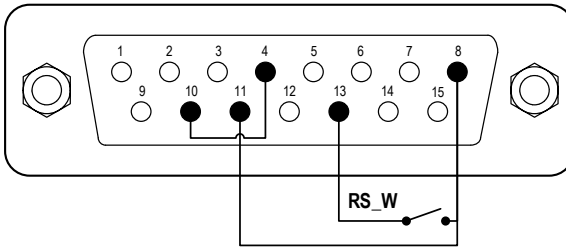
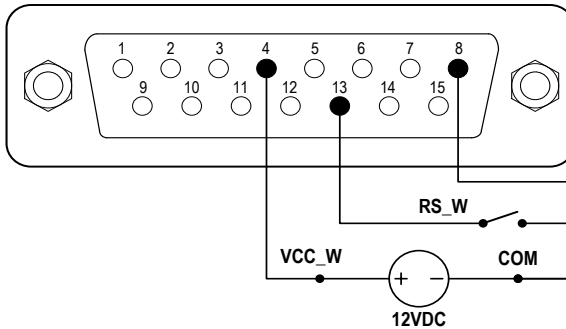

Figure 46. Control Start/Stop with Internal 12V Power Source
Figure 47. Control Start/Stop with External 12V Power Source
- 1) Power pump off. Wire the DB15 connector as shown on Figure 46 or Figure 47, and connect it to the DB15 port on the rear of the